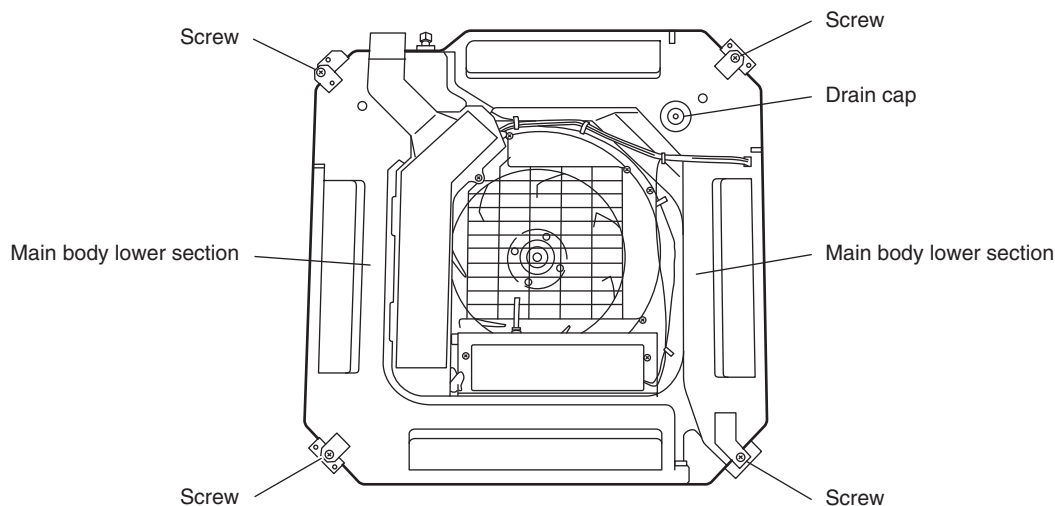

Fig.16
- Put a bucket, etc., under the drain cap and remove the drain cap to drain the water.(Fig. 16)
- (1) Remove the 4 screws. (Fig. 16)